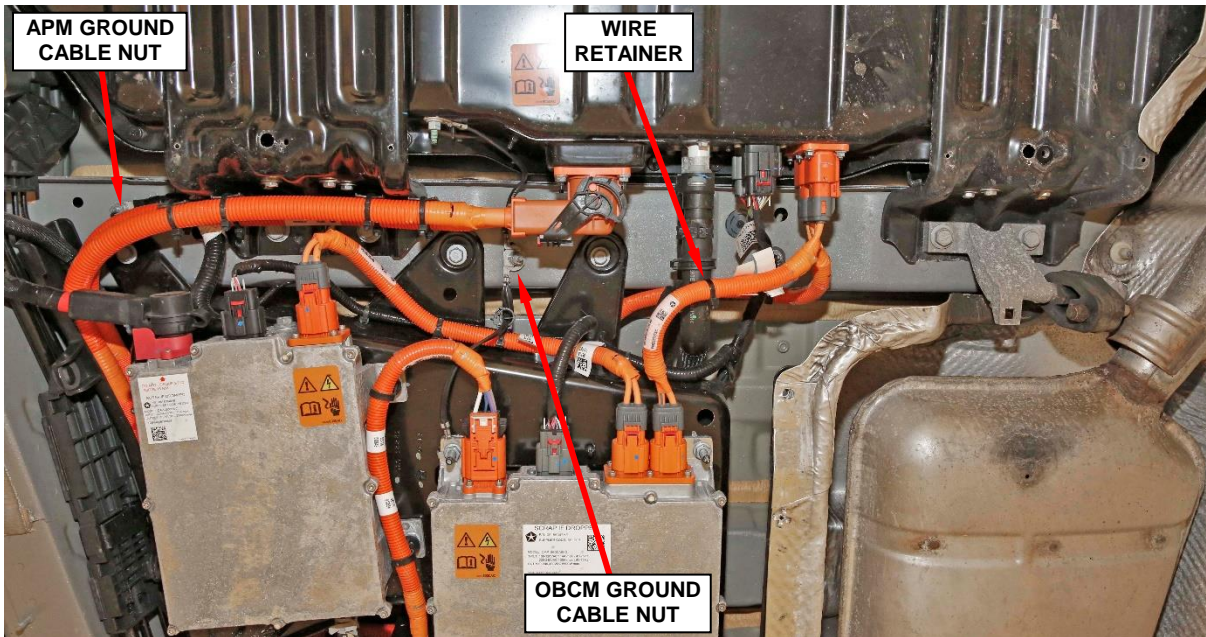

Figure 33 – Wire Retainer and Ground Cable nuts
18. Release the wire retainer from the coolant hose (Figure 33).
19. Remove the On-Board Charging Module (OBCM) chassis ground cable nut and Accessory Power Module (APM) chassis ground cable nut (Figure 33).
30. Install the OBCM and APM chassis ground cable nuts and tighten to 9 N·m (80 in. lbs.) (Figure 33).
31. Attach the wire retainer to the coolant hose (Figure 33).